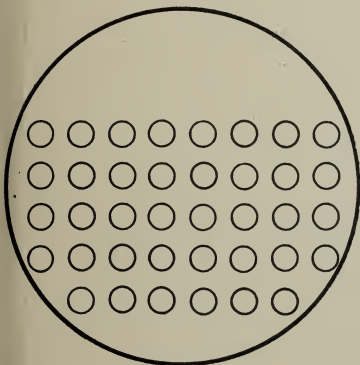
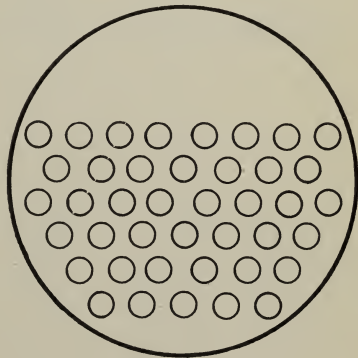

FIGURE 7.
FIGURE 8.
*The Arrangement of Flues.*—The arrangement of flues in a boiler is an important matter and in past years some mistakes have been made by manufacturers in arrangement. At the present time, so far as known, the arrangement of flues in direct flue boilers is in both horizontal and vertical courses, as shown in Figure 7. This arrangement is much better than shown in Figure 8, in which the flues are staggered in vertical rows. Such an arrangement impedes the circulation and does not allow the scale to drop to the bottom,